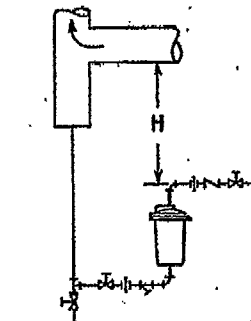

Fig. 26-1. Trap draining drip leg at riser. Distance "H" in inches ÷ 28 = psi static head for forcing water through trap.
Step 3. Pressure differential for trap sizing will be 1 psig for every 28" of head between bottom of main and top of trap—See Fig. 26-1.